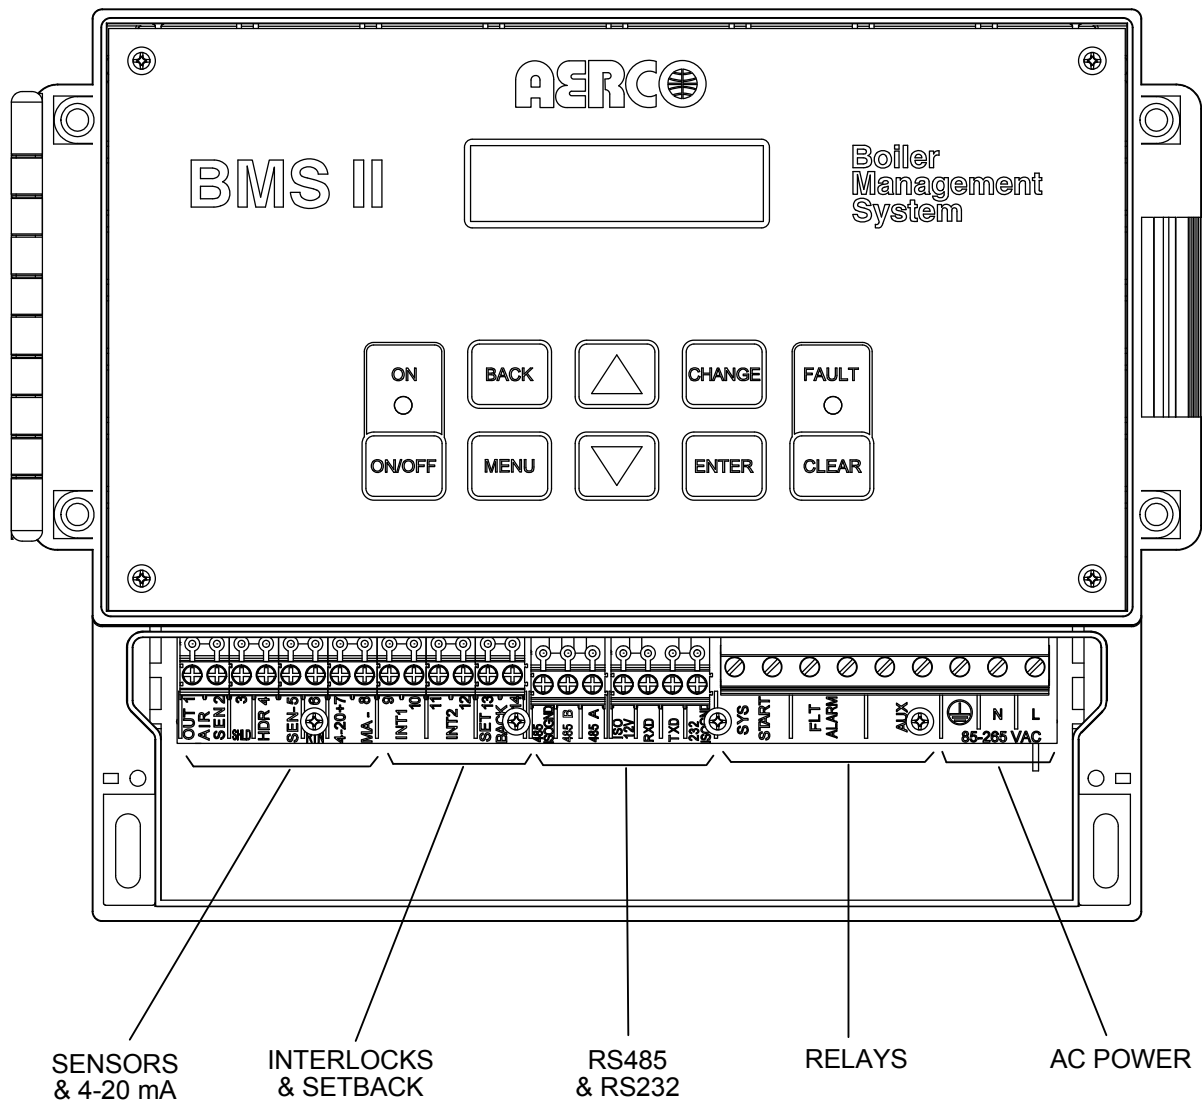

Figure 2-2. BMS II With Wiring Compartment Cover Removed
All wiring connections to the BMS II are made at the terminals located behind the wiring compartment cover as shown in Figure 2-2. Run all wiring through the knock-outs provided on the bottom surface of the unit. Shielded, twisted-pair cable should be used for sensor and communication wiring. This wiring should be 18 to 24 AWG. Examples of suitable sensor and communication wire are: Belden 9841, 8761, 3105A or equivalent. AC power wiring should be 14 to 18 AWG. The BMS II wiring diagram is provided in Appendix E. Once mounting is complete and the BMS is secured in place, loosen the two captive screws on the wiring compartment cover using a Phillips screwdriver. Feed all wiring through the knock-outs provided on the bottom of the panel.
1. Feed the power wiring through the right-most knock-out in the bottom of the panel enclosure (Figure 2-2).